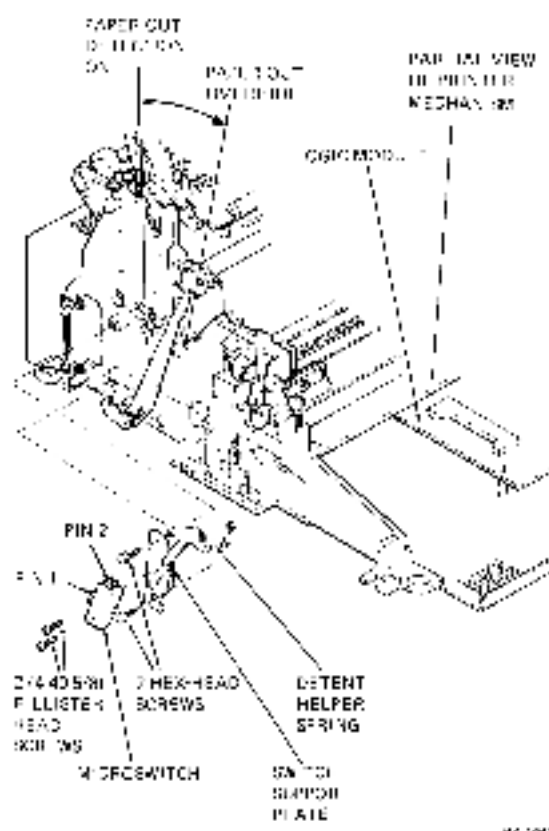

Figure 3-18 Paper Out Detection Switch Installation
11. Secure the microswitch and detent helper spring to the switch support plate using two (4-40 $\times$ 3/8) fillister screws and two (4-40) keep nuts (Figure 3-18).
12. Using a 1/4 inch open-end wrench, remove the top switch support plate hex-head screw and loosen the bottom switch support plate hex-head screw (Figure 3-18).
14. With the paper out override lever in the detect on position, adjust the switch support plate to activate (press) the microswitch (Figure 3-18). Using a 1/4 inch open-end wrench, tighten the hex-head screw on the bottom switch support plate.